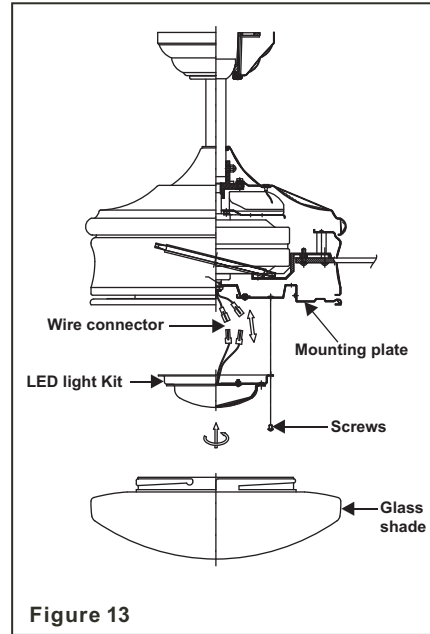

Figure 13
Step 1. Remove the 1 of 3 screws from the posts of the mounting plate and keep it for future use. Loosen the other 2 screws. (Do not remove) (Fig. 13)
Step 3. Place the key holes in the LED light kit over the two screws previously loosened from the mounting plate. Turn the LED light kit until the LED light kit locks in place at the narrow section of the key holes. (Fig. 13)
Step 4. Securely tighten the two light kit mounting screws previously loosened and the one previously removed. (Fig. 13)
Step 5. Raise glass shade up against the LED light kit, and secure it to fan by turning glass clockwise until snug. DO NOT OVERTIGHTEN. (Fig. 13)